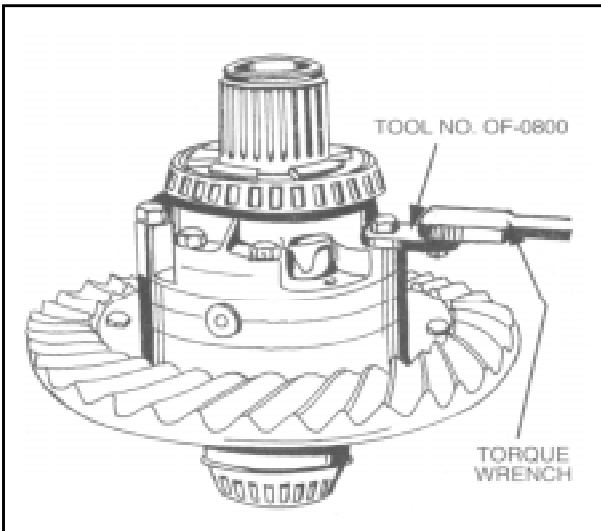

Figure 15
5. Tighten the retaining bolts to the specified torque see Torque Specifications. Use Special adaptor, Tool No. OF-800 or similar crow foot adaptor, to enable a torque wrench to be used. (Figure 15)